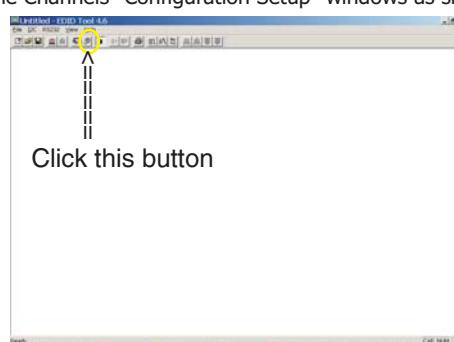
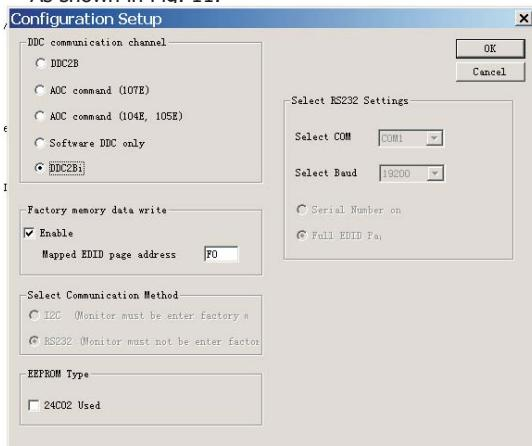

Fig. 10
Fig. 11
1. Click icon as shown in Fig. 10 from the tool bar to bring up the Channels "Configuration Setup" windows as shown in Fig. 11.
As shown in Fig. 11.